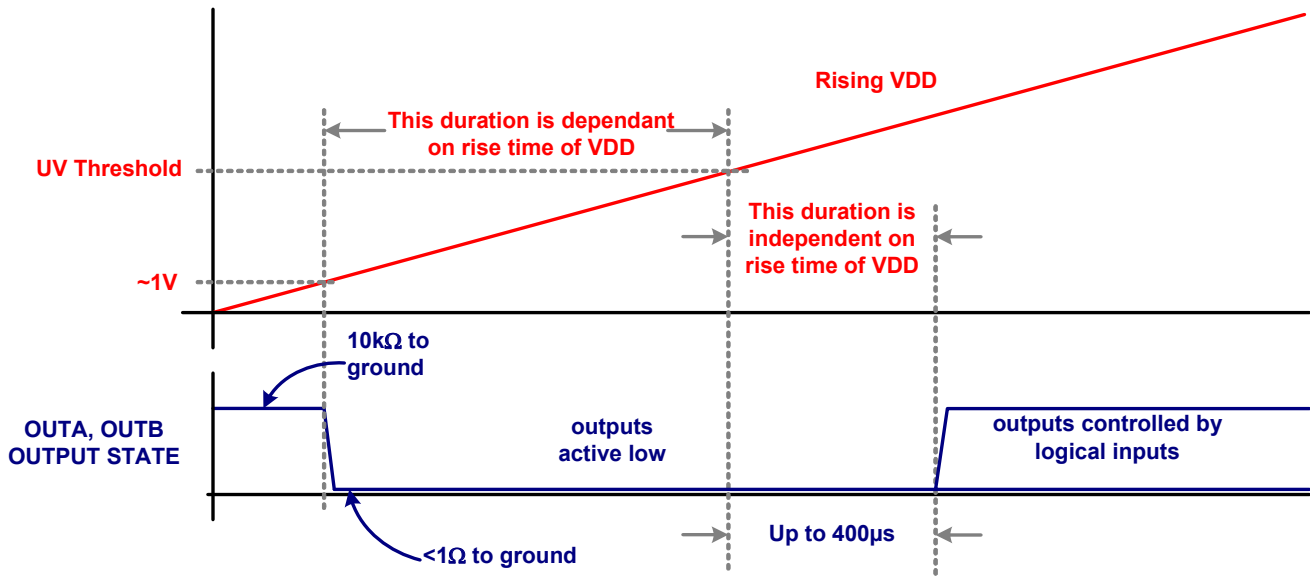

FIGURE 9. START-UP OUTPUT CHARACTERISTIC
12. A 400 $\mu s$  delay further inhibits the release of the output state when the UV positive going threshold is crossed. See Figure 9.
The start-up sequence for input threshold options A, B, and C is designed to prevent unexpected glitches when  $V_{DD}$  is being turned on or turned off. When  $V_{DD} < \sim 1V$ , an internal 10k $\Omega$  resistor connected between the output and ground, help to keep the gate voltage close to ground. When  $\sim 1V < V_{DD} < UV$ , both outputs are driven low while ignoring the logic inputs. This low state has the same current sinking capacity as during normal operation. This insures that the driven FETs are held off even if there is a switching voltage on the drains that can inject charge into the gates via the Miller capacitance. When  $V_{DD} > UVLO$ , and after a 400 $\mu s$  delay, the outputs now respond to the logic inputs. See Figure 9 for complete details.